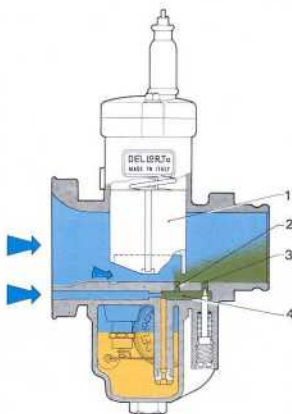

fig. 20
As previously noted, the idle hole (3) shown in figure 20, only delivers sufficient fuel for engine idle operation and the main circuit still does not deliver any fuel because of insufficient vacuum upstream of the throttle. The progression hole (2) is therefore necessary to deliver the fuel required during this transition period. The progression hole draws fuel from the idle circuit (4) and is positioned immediately upstream of the closing edge of the throttle slide (1) for the promptest response to fuel demand when the airflow suddenly increases.